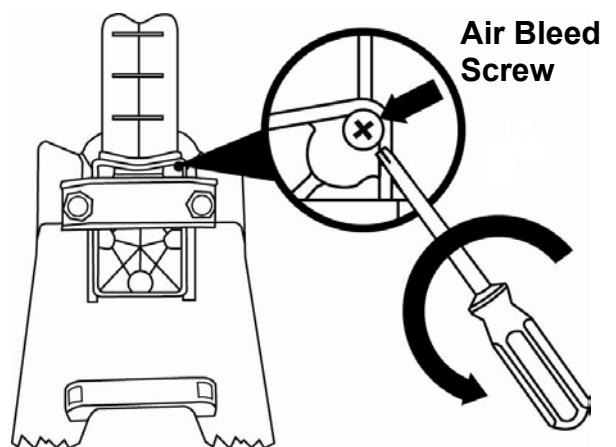

Figure 4
Important! It is important to adjust the Air Bleed Screw each time you use the machine. You will need a standard Phillips screwdriver to make this adjustment (*Figure 4*).
5. Open the Air Bleed Screw using a small Phillips screwdriver 4 turns and cycle the ram back and forth 3 or 4 times to purge any air from the hydraulic system (*Figure 4* on page 11).
- Make sure that the Air Bleed Screw is tightened (See *Figure 4* on page 11).